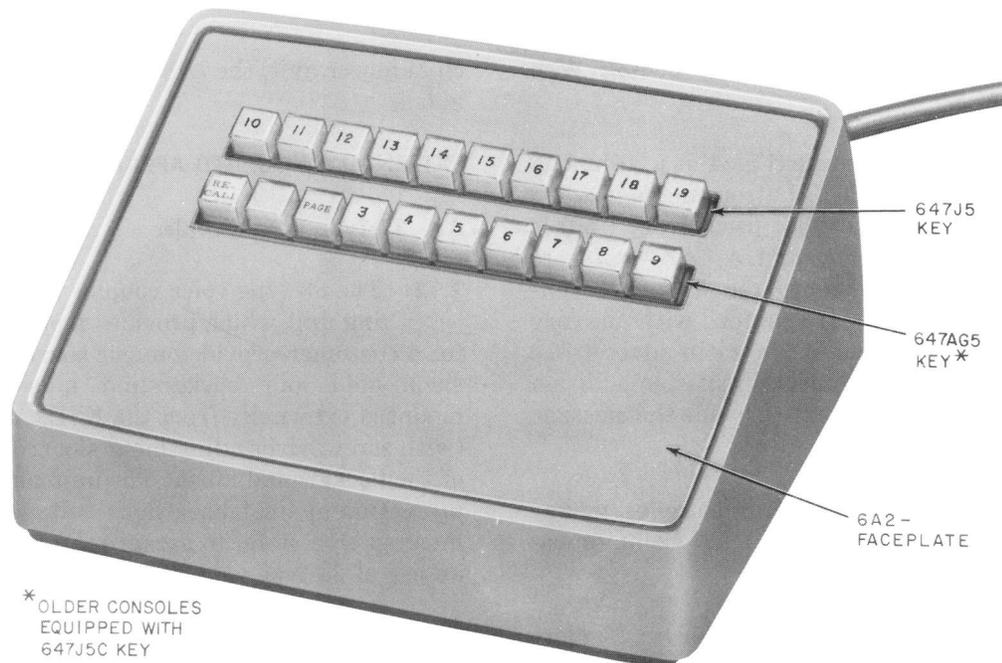

Fig. 3—6A1 Selector Console (DSS)
**2.09** The 6A1 selector console (Fig. 3) is a 20-button console providing a 17-button DSS field with station busy lamps. Of the three remaining buttons, one is used as a paging button, one is used as an intercom recall button, and one button is spare. Ivory (-50) is the standard console color, and a 6A2—(refer to Table A) faceplate must be ordered with each console. Current 6A1 consoles are shipped with an ivory (-50) mounting cord rather than satin-silver (-87). The 6A1 selector console is normally used in addition to the attendant's telephone set to provide DSS on the intercom.